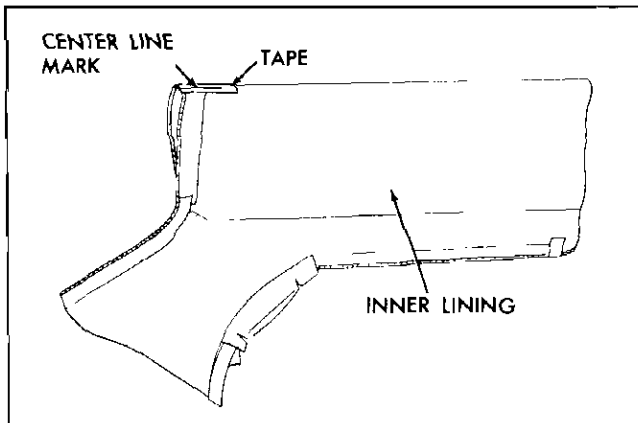

Fig. 7-44 Centerline of Convertible Top Material
23. Fold new top material in half so that inner lining of top material is exposed (Fig. 7-44). Install a 6" piece of tape on inner surface at centerline fold of new top material (Fig. 7-44). Using a pencil, mark the approximate centerline of new top material along entire length of tape.